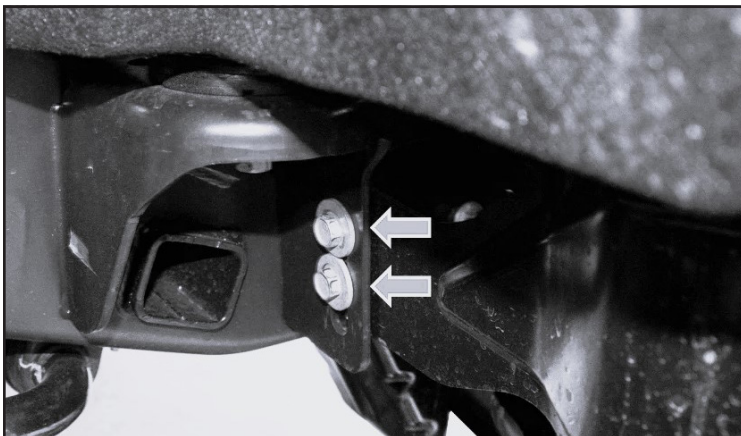

FIGURE 2 - STEP 5
5. In the wheel well, remove the two bolts per side that hold the bumper support bracket to the frame. **SEE FIGURE 2**